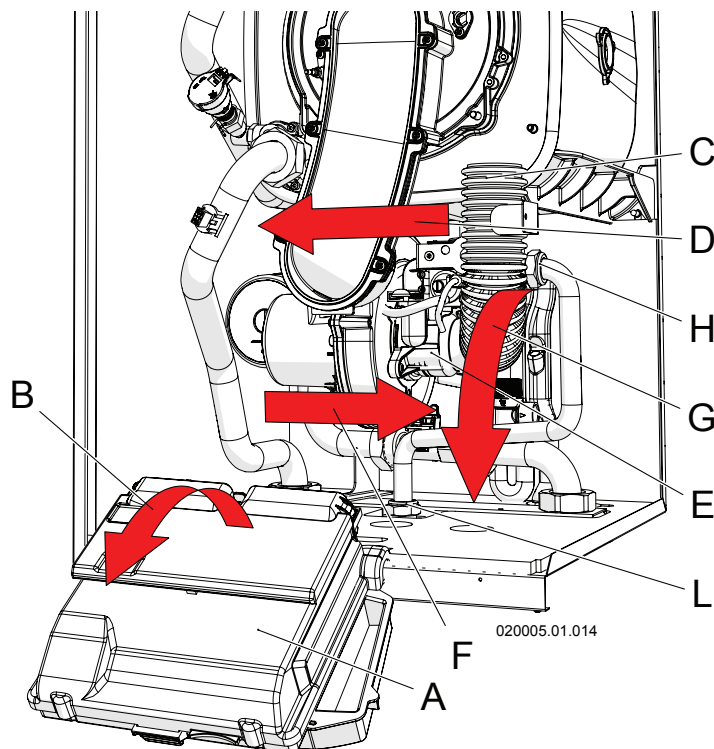

Figure 6-2 – Removing the air manifold
6. - Remove the air manifold, making sure to rotate it outwards and then slide it out of the fan inlet (see figure 6-2, detail "C");
7. - Remove the gas inlet pipe using the two fittings (see figure 6-2, details "H" and "L");
12. - Refit the gas supply pipe via the two fittings (see figure 6-2, details "H" and "L");
13. - Refit the air manifold (see figure 6-2, detail "C");